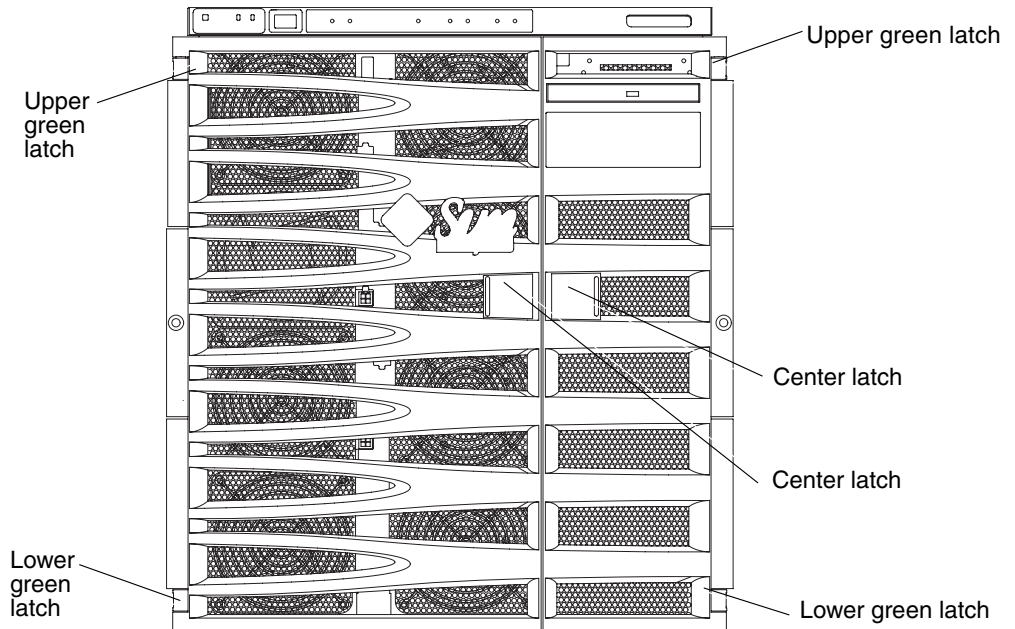

FIGURE 2-2 Front View of System
1. **Open both doors by pressing the latches at the center of each door** (FIGURE 2-2).
- a. While holding the door with one hand, push the green latch on the top of the door down (FIGURE 2-2).